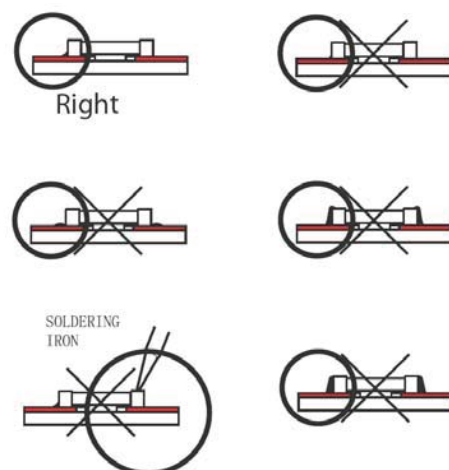

Fig.3 Examples
- The quantity of solder must be proportional to the size of the solder land. If the quantity is too great, the SMD might crack or the solder lands might be torn loose from the printed board (see Fig. 3).